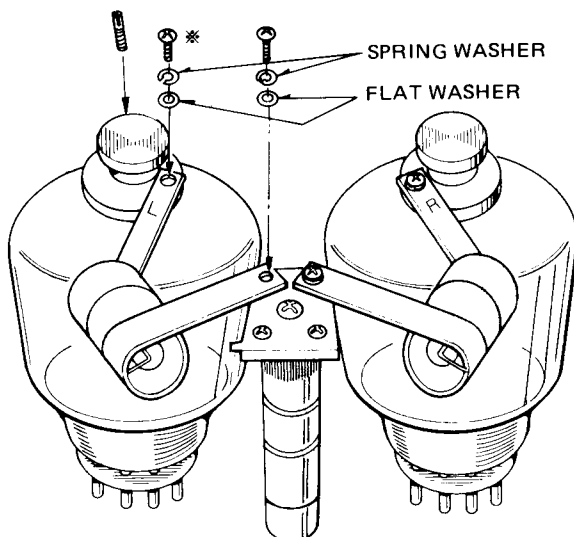

Figure 2-3 — Parasitic Suppressor Coil Mounting
7. (Refer to Fig. 2-3) Temporarily fix each parasitic suppressor coil on the plate cap with the letter "R" or "L" facing up. At this time, do not tighten the 4 mm screw and spring washer, but snug them so the coil may be adjusted.